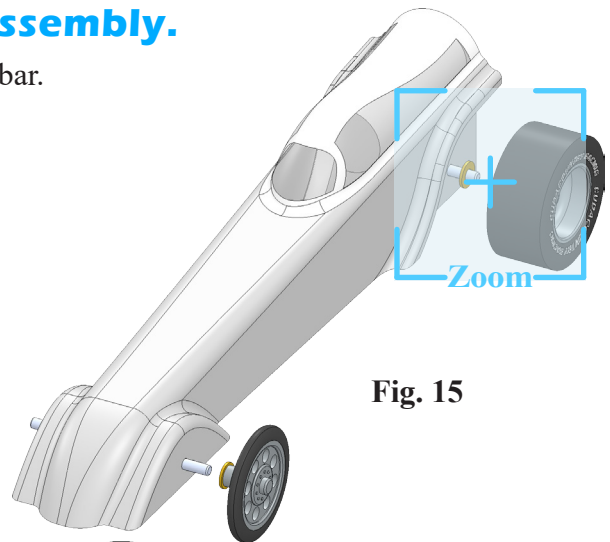

Fig. 15
Step 1. Click **Zoom to Fit**  (F) on the View toolbar.
Step 2. Zoom in around **Rear Wheel**, Fig. 15.